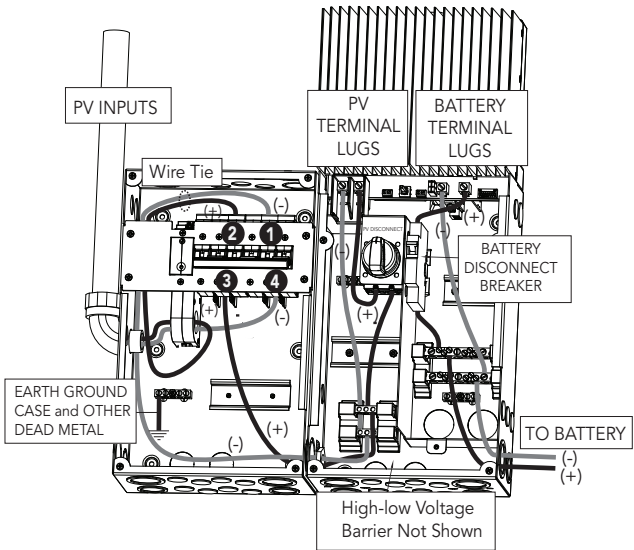

Figure 8. Completing Wiring for DB Model
**NOTE:** If installing with DB model controller (Figure 8), connect (+) wire to terminal block with yellow wire (goes to PV Disconnect), and connect (-) wire to terminal block with black wire (goes to (-) PV terminal lug). Replace and secure the metal high-low voltage barrier over the solar wires. Close GFPD-600V breakers.
**NOTE:** If installing with DB model controller (Figure 8), connect (+) controller side controller<->battery wire to (+) terminal block (goes to battery disconnect switch). Connect (-) controller<->battery wire to (-) terminal block (goes to controller (-) battery terminal). Connect (+) battery side controller<->battery wire to (+) battery terminal. Connect (-) wire to (-) battery terminal.
The diagnostic flow diagram in Figure 8 on page 15 illustrates the possible GFPD-600V faults.